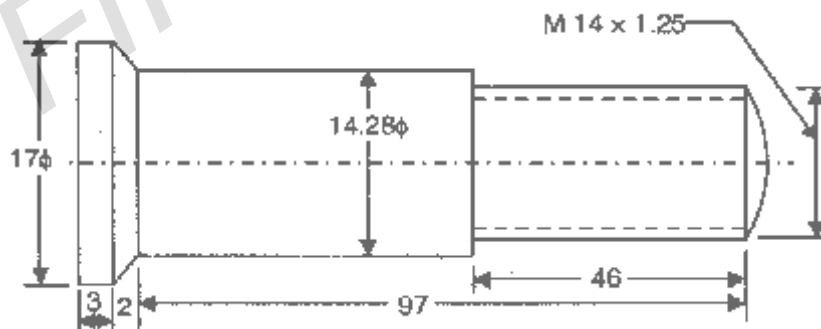

Figure 1:
- Draw the tool lay out for the component shown in the figure 1 and mention the sequence of operations performed on it. [16]